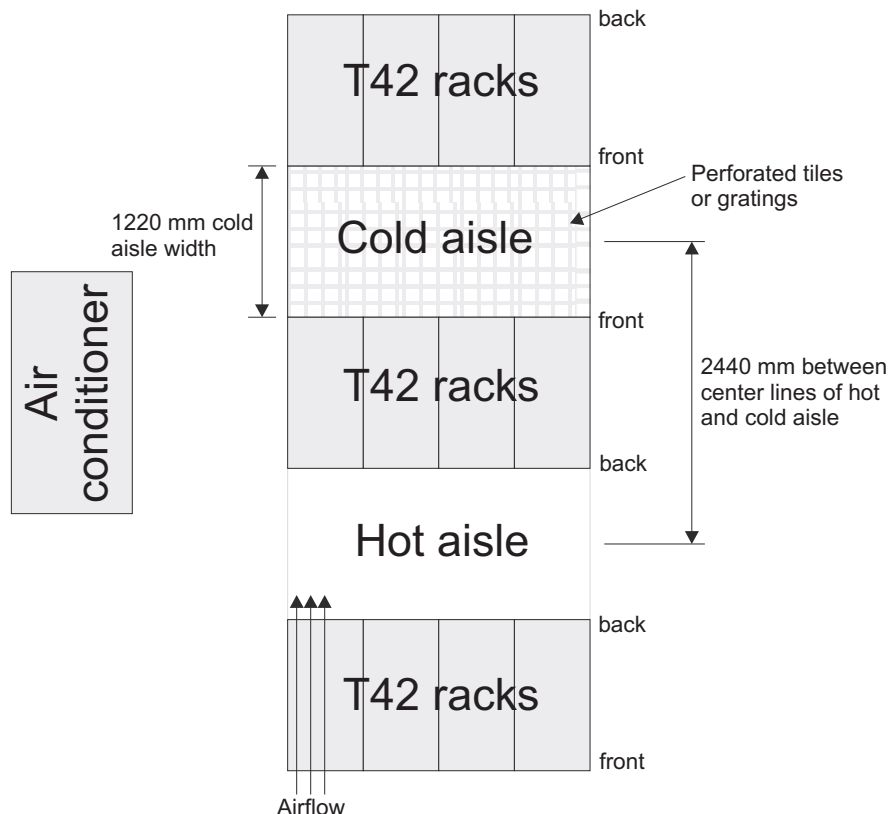

Figure 15. Example of cold aisle/hot aisle rack configuration
- Air enters at the front of the rack and leaves at the back. To prevent the air that is leaving the rack from entering the intake of another piece of equipment, you must position the racks in alternate rows, back-to-back, and front-to-front. This arrangement is known as *cold aisle and hot aisle* and is shown in Figure 15.